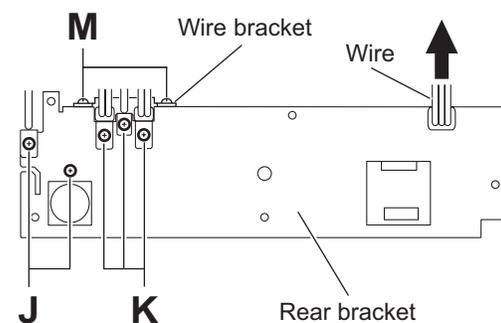

Fig.12
3.1.7 Removing the rear bracket (See Fig.12)